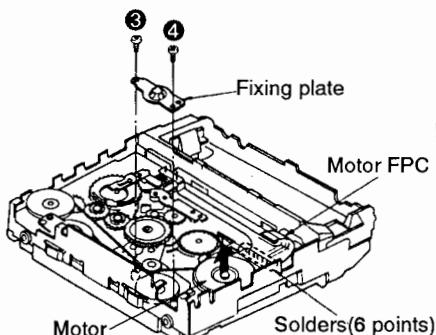

Fig. 2
3. Remove the 2 screws(③, ④) and the fixing plate. (Refer to Fig. 2.)
4. Unsolder the motor FPC(6 points). (Refer to Fig. 2.)
5. Remove the motor in the direction of arrow. (Refer to Fig. 2.)